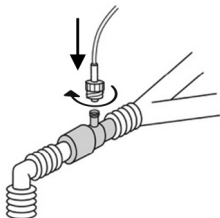

Figure 1
2. Connect the Airway Adapter to the proximal end of the breathing circuit between the endotracheal tube and the ventilator Y-section Airway Adapter facing upwards as shown in Figure 1.
3. Connect a separate gas sampling line (male Luer connector) to the Airway Adapter (female Luer connector) as shown in Figure 1. Rotate the Luer connector clockwise for a secure fit to ensure that there is no leakage of gases at the connection point.